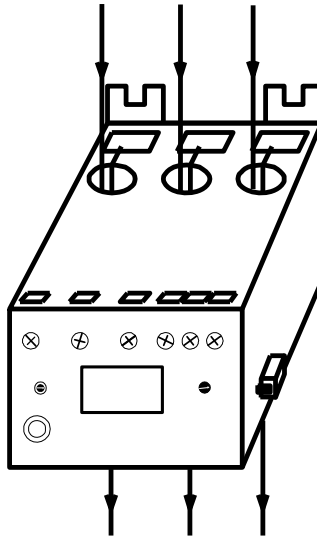

Figure 2: Looping Example for 12-20A, MULT = 2
b) For amperages less than 20 amps, loop the motor conductors according to Table 1. Figure 2 shows an example of the looping required for current ranging from 12-20 amps (MULT=2).